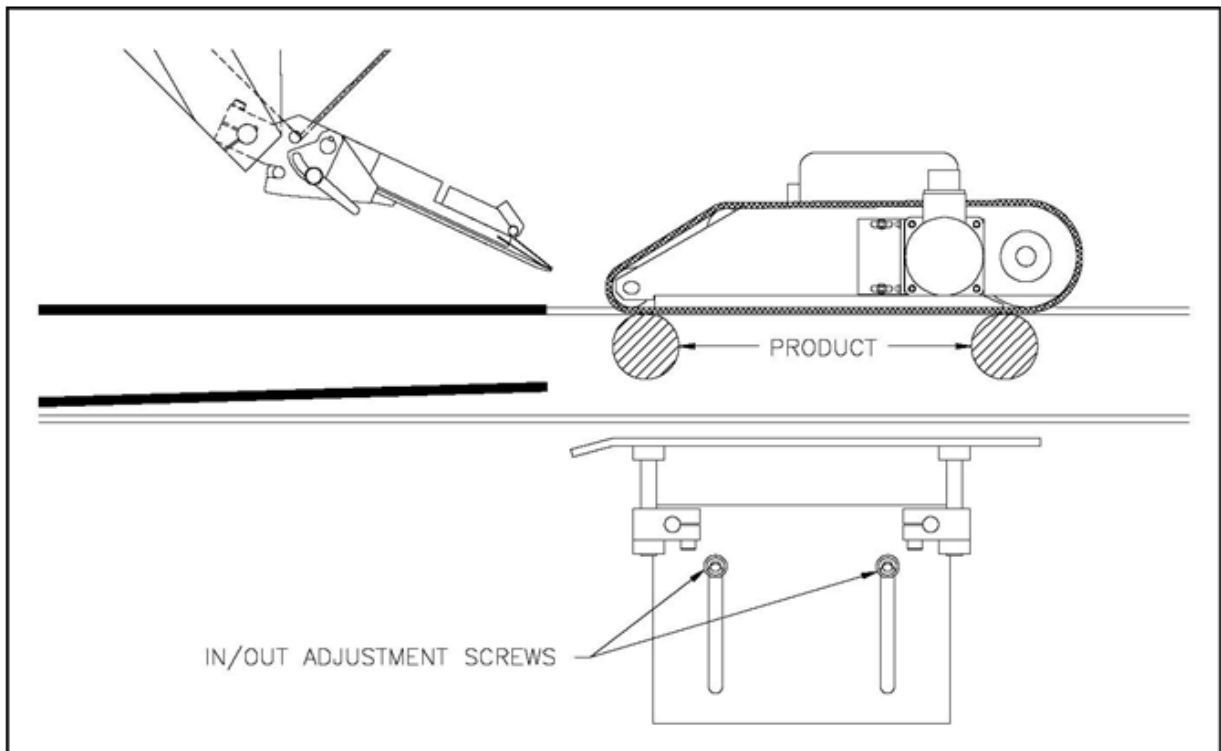

Figure 53 Pressure Bar In/Out Position
1. If necessary, loosen the mounting screws to position the pressure bar as shown in Figure 53. Do not fully tighten the screws at this time.
(Refer to Figure 53).
3. Place a product at each end of the wrap belt. Refer to Figure 53.